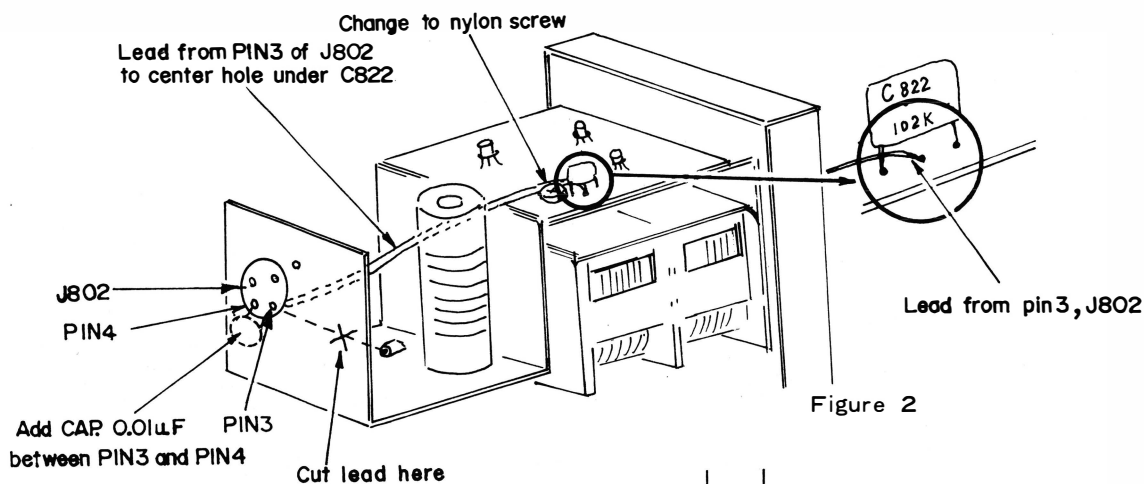
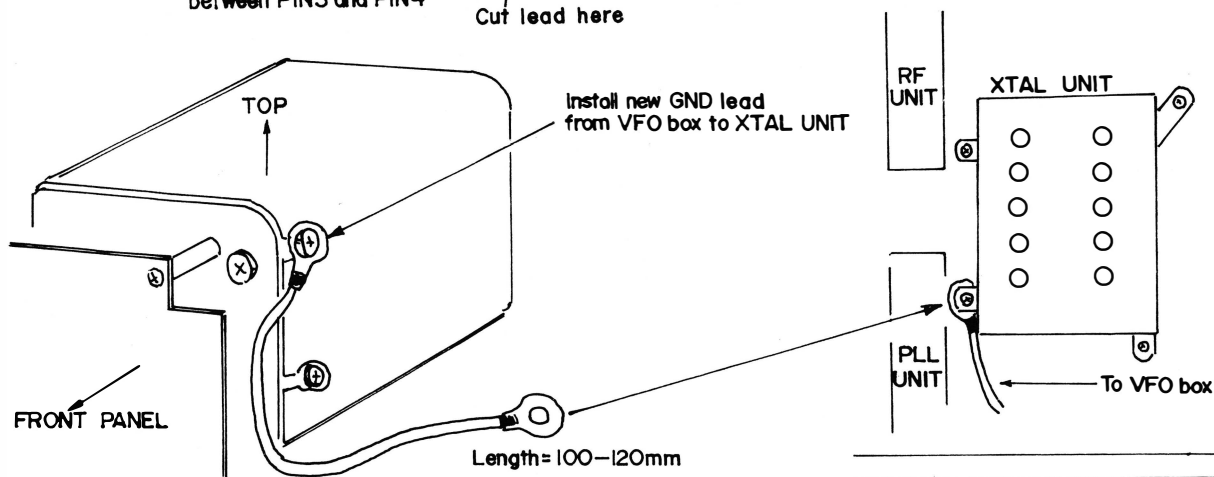

Figure 2
Figure 3
- (2) Refer to Fig. 2 , and remove the ground lead from pin 4 of J₈₀₂. Re-route the lead so that the connection is from pin 4 of J₈₀₂ to the center hole under C₈₂₂.
- (3) Change the screw adjacent to C₈₂₂ to a NYLON screw.
- (4) Add a new 0.01 disc ceramic capacitor between pins 3 and 4 of J₈₀₂.
- (5) Install a new ground lead, made from a heavy braided wire of 100-120 mm length. This lead should run from the VFO compartment to the ground lug for the XTAL UNIT, as shown in Fig. 3 .